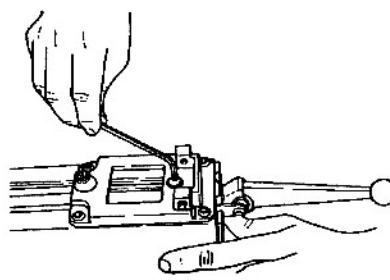

Fig. A-45
54. Remove the cap screws and washers from the fence body mount, as illustrated in Figs. A-45 and A-46.